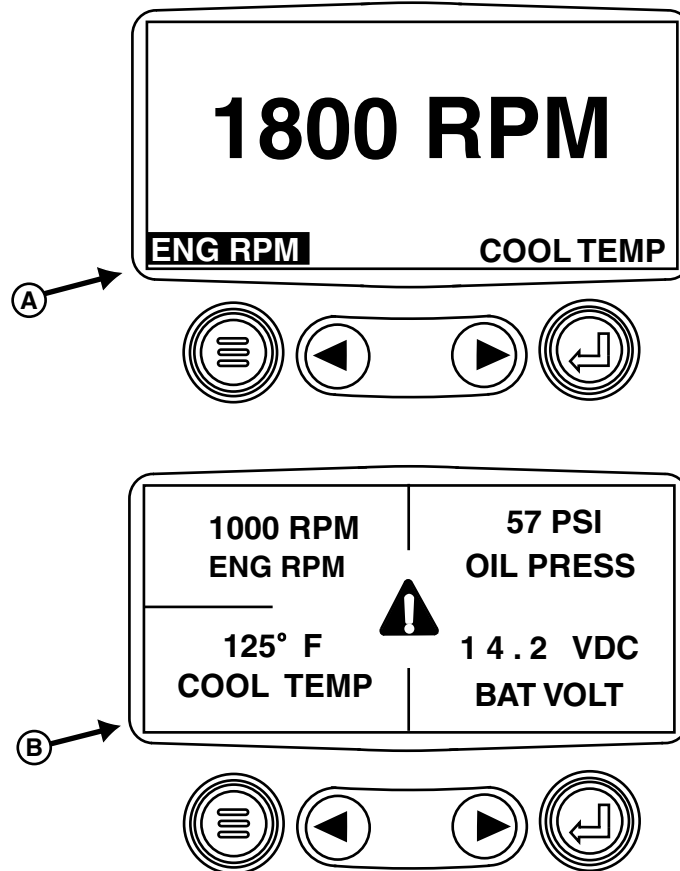

Figure 1. One and Four Parameter Displays
The diagnostic gauge can be used for displaying engine parameters. Two display modes can be selected, one showing a single selectable parameter, called 1-Up Display (A), and the other showing four selectable parameters, called 4-Up Display (B). At power up, the gauge defaults to the mode that was last used. Examples of both are shown in Figure 1.